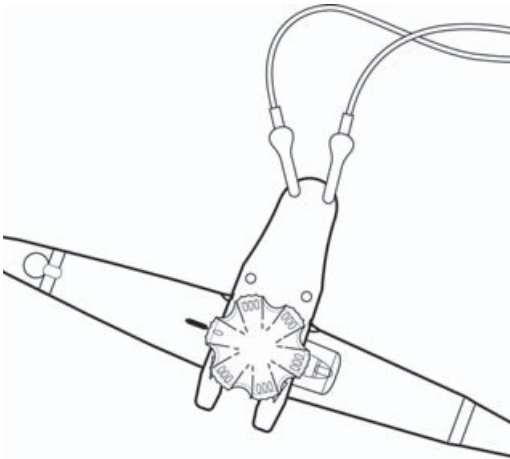

Figure 5-21 Puncture test tool attachment
- b** Connect the red leads to the puncture test tool as shown in **Figure 5-21**.